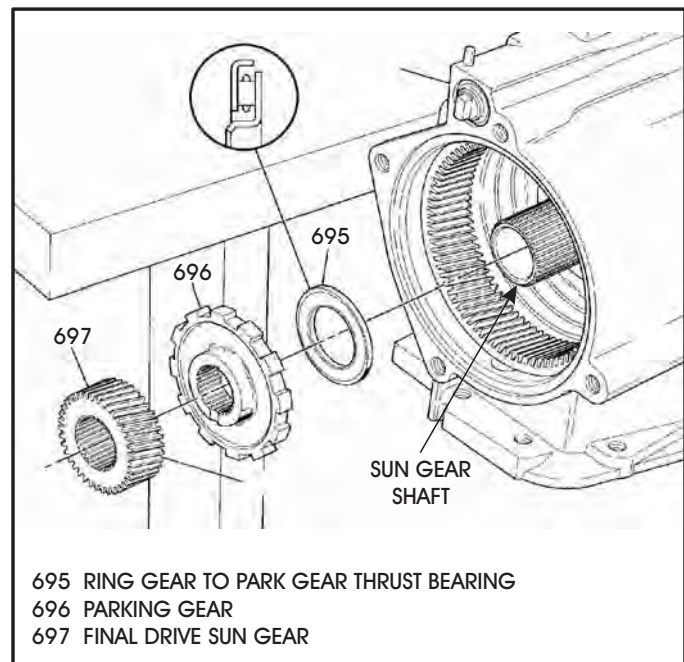

Figure 168
4. Install the ring gear to park gear thrust bearing over sun gear shaft, as shown in Figure 168.
5. Install park gear and final drive sun gear onto splines of sun gear shaft (See Figure 168).